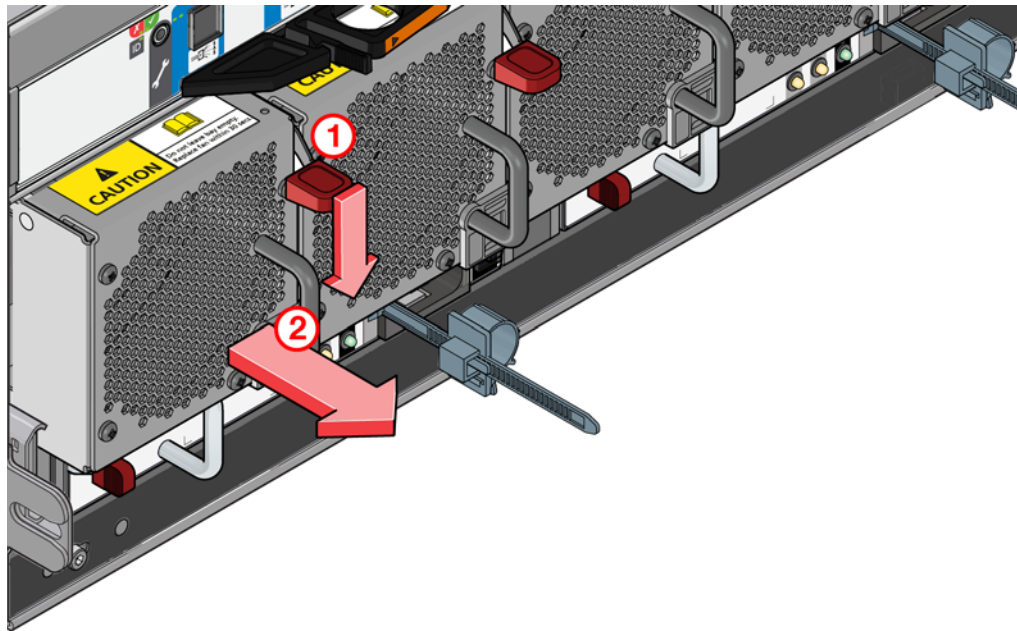
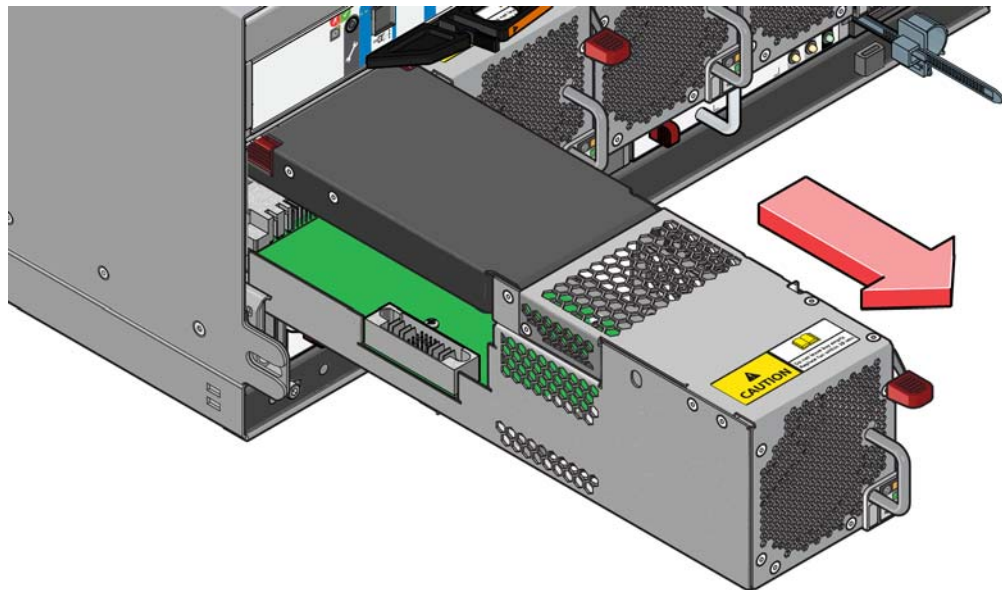

Figure 6-9 Removing a Cooling Module (1)
Figure 6-10 Removing a Cooling Module (2)
- 2 As shown in Figure 6-9 and Figure 6-10, push down and hold the black release latch (1) and pull the module out by its handle (2).